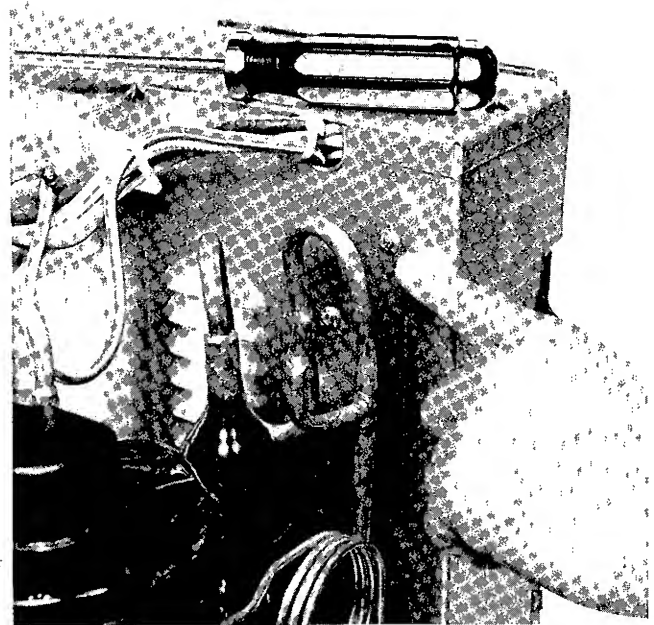

Fig 8 — Control Box Screws
7 Control Box — Control Box is secured with 2 screws See Fig 8
- j Remove control box See Fig 8 Refer to Control Box removal directions